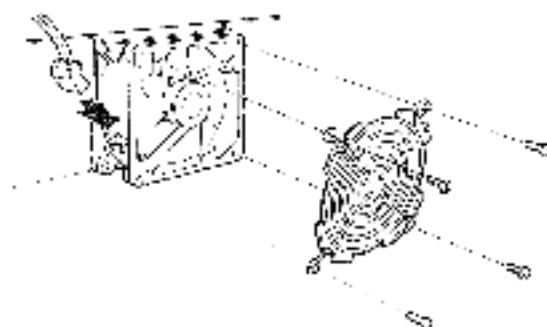

Figure 8-29 Front Fan Power Cable and Fan Guard Connector
1. Remove the power cable and fan guard (if present) from the intake side of the old fan and fit them to the replacement fan (Figure 8-29).
The front fan power cable is not keyed. Observe the polarity of the connector. The curve of the connector must match the curve of the fan housing as shown in Figure 8-29.